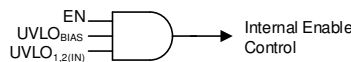

图 3. Simplified Turnon Control
Controlling when a single power supply turns on can be difficult in a power distribution network (PDN) because of the high power levels inherent in a PDN, and the variations between all of the supplies. As shown in 图 3 and 表 2, the LDO turnon and turnoff time is set by the enable circuit (EN) and undervoltage lockout circuits ( $UVLO_{1,2(IN)}$  and  $UVLO_{BIAS}$ ).